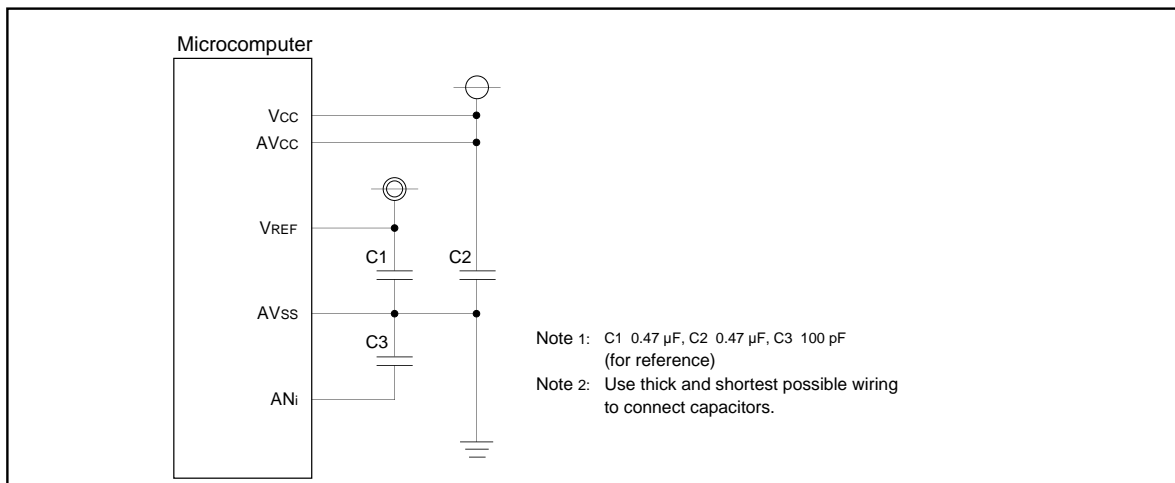

Figure 2.7.22. Use of capacitors to reduce noise
- (1) Write to each bit (except bit 6) of A-D control register 0, to each bit of A-D control register 1, and to bit 0 of A-D control register 2 when A-D conversion is stopped (before a trigger occurs). In particular, when the Vref connection bit is changed from 0 to 1, start A-D conversion after an elapse of 1  $\mu$ s or longer.
- (2) To reduce conversion error due to noise, connect a voltage to the AVcc pin and to the Vref pin from an independent source. It is recommended to connect a capacitor between the AVss pin and the AVcc pin, between the AVss pin and the Vref pin, and between the AVss pin and the analog input pin (ANi). Figure 2.7.22 shows the an example of connecting the capacitors to these pins.